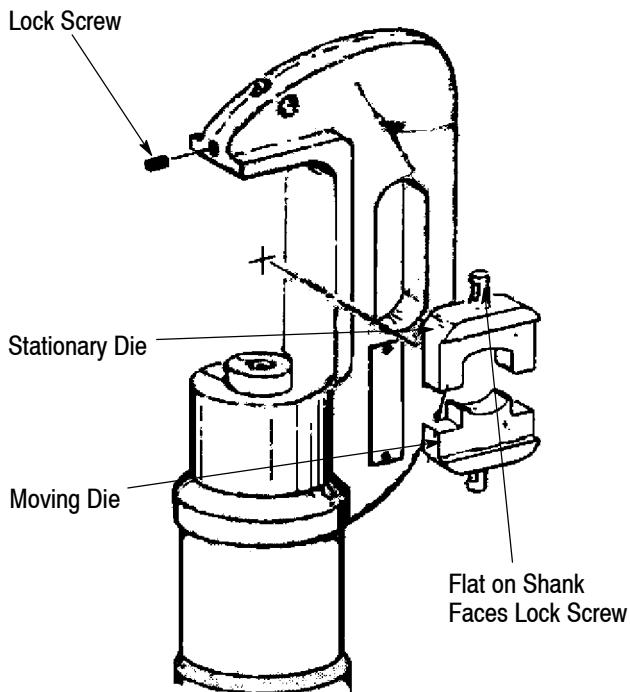

Figure 2
1. Back off the set-screws in the head and ram (ram must be advanced to gain access to the set-screw). Refer to Figure 2.
2. Insert dies in the head and ram, ensuring that the "flats" on the die shanks are facing the set-screws (see Figure 2).